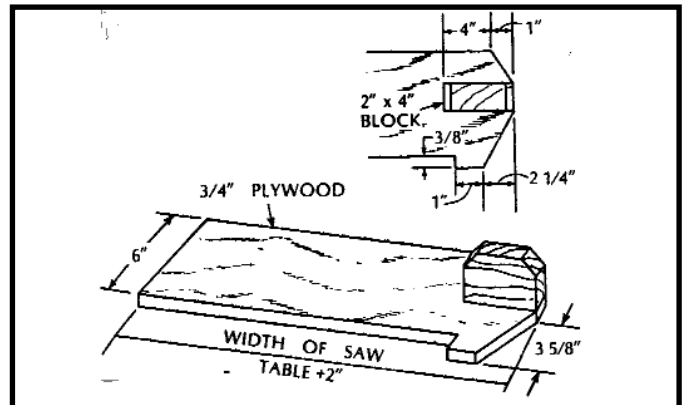
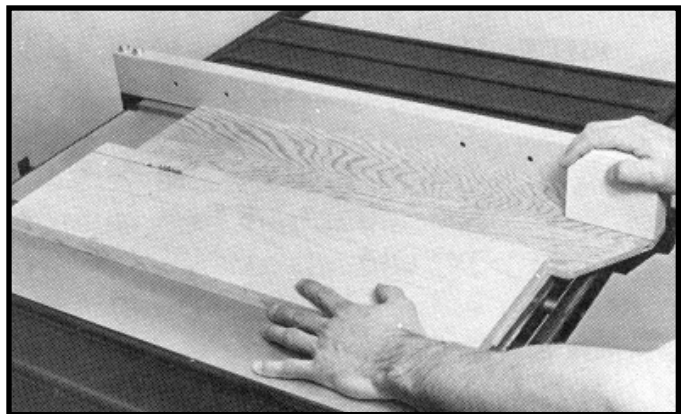

Fig. 56
Fig. 57
4. Ripping narrow pieces can be dangerous if not done carefully. Narrow pieces usually cannot be cut with the guard in position. If the workpiece is short enough, use a pushboard. When ripping material under 2 inches in width, a flat pushboard is a valuable accessory since ordinary type sticks may interfere with the blade guard. When using a pushboard, the width of the pushboard must be added to the width of the rip fence position setting. A flat pushboard can be constructed as shown in Fig. 56 and should be used as shown in Fig. 57.